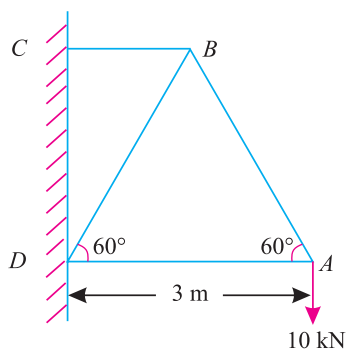

Fig. 13.24.
**Example 13.6.** A cantilever truss of 3 m span is loaded as shown in Fig 13.24.